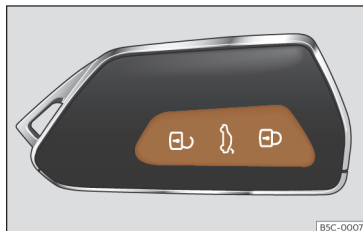

Fig. 70 Remote control key: keys.
- Lock: press the  >>> Fig. 70 button.